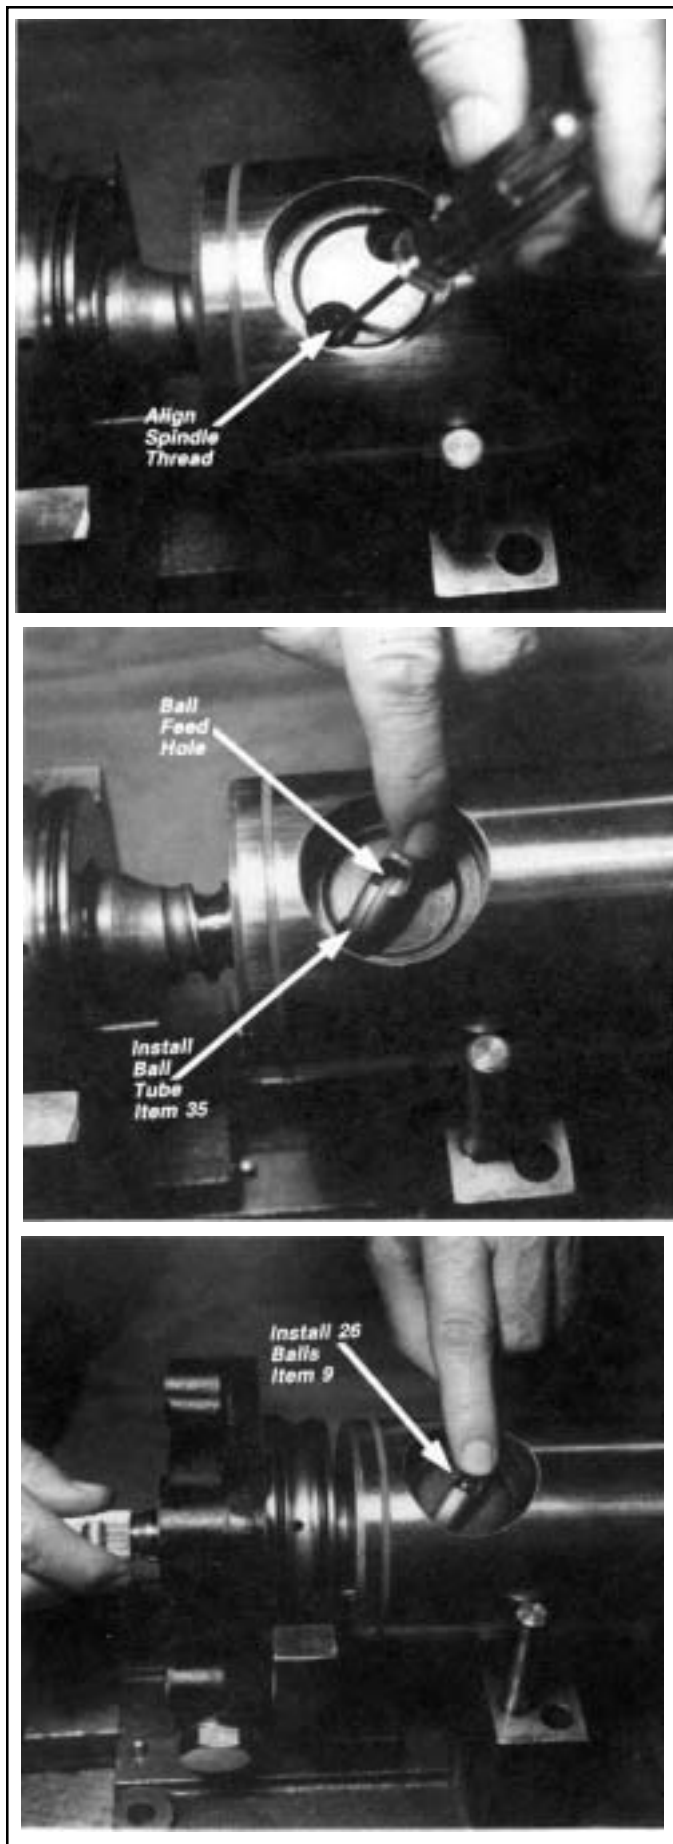

FIGURE 49 - INSTALLING NEW STYLE BALL RETURN TUBE & BALLS
21. Insert the valve body and spindle assembly (3) all the way into the piston (23) making certain that the steering limiting stem (13) is not damaged and that it mates with the valve seat (17) in the piston (23). Pull the valve and spindle assembly (3) out of the piston (23) about two inches, MAKING CERTAIN THE STEERING LIMITING STEM (13) REMAINS ALIGNED WITH VALVE BALL AND SEAT (17). Make certain the spindle threads will not interfere with the ball pick-up tabs on the ball tube (35) when it is inserted into the tube holes in the piston (23). The spindle's threads are visible at the bottom of the tube holes in the piston. Figure 49 Insert the ball return tube halves (35) all the way into the holes in the piston. If the ball return tube is properly installed, the
22. While FIRMLY HOLDING THE BALL TUBE (35) IN PLACE insert as many of the balls(9) through the opening in the ball tube as possible. Rotate the input shaft (3) slightly to make room for each ball that is inserted. (Note: As the spindle is rotated the ball tube may tend to rise out of the holes in the piston.) Continue to insert balls until ALL TWENTY-SIX HAVE BEEN INSTALLED. Figure 49 Lightly grease the sealing surfaces of the tube cover(24) and install it in the piston